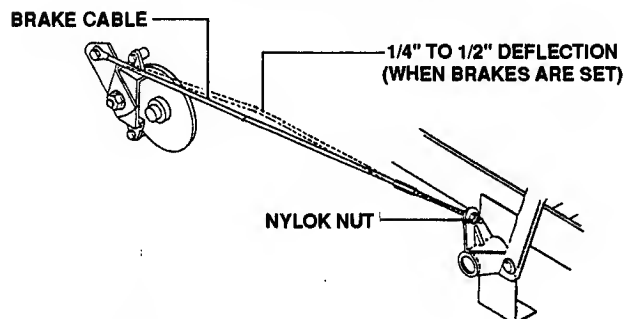

FIGURE 10.5
- (b) Adjust the nylock nut on the brake cable until the cable has 1/4" to 1/2" deflection at mid-span. See Figure 10.5.